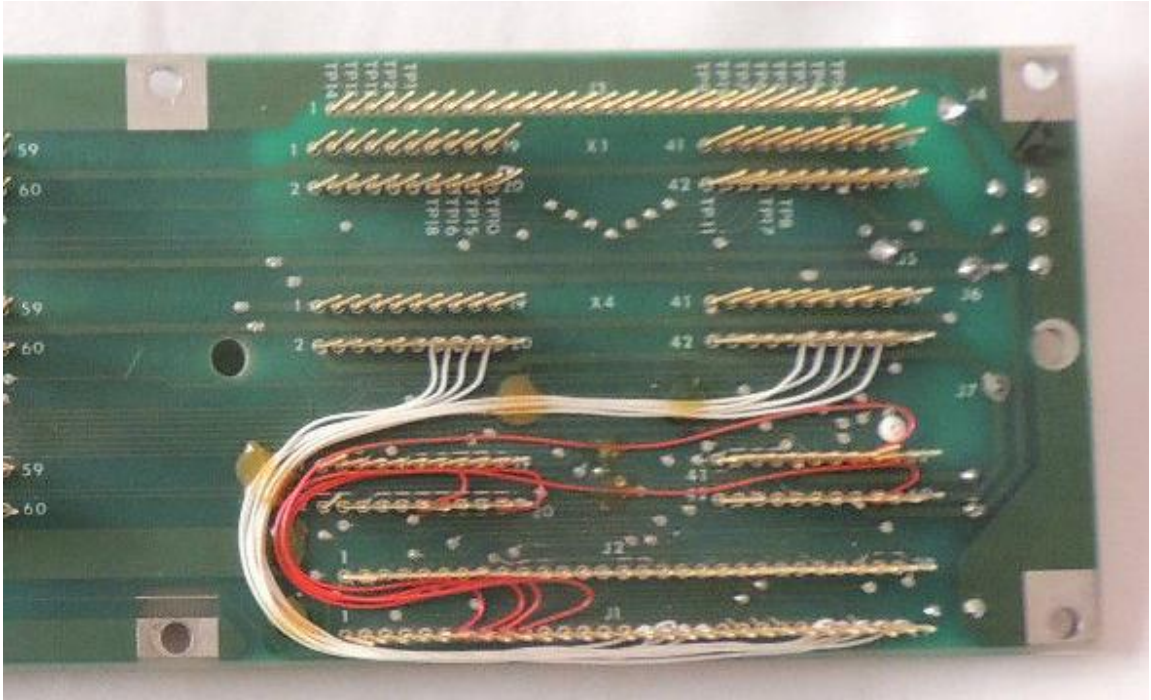
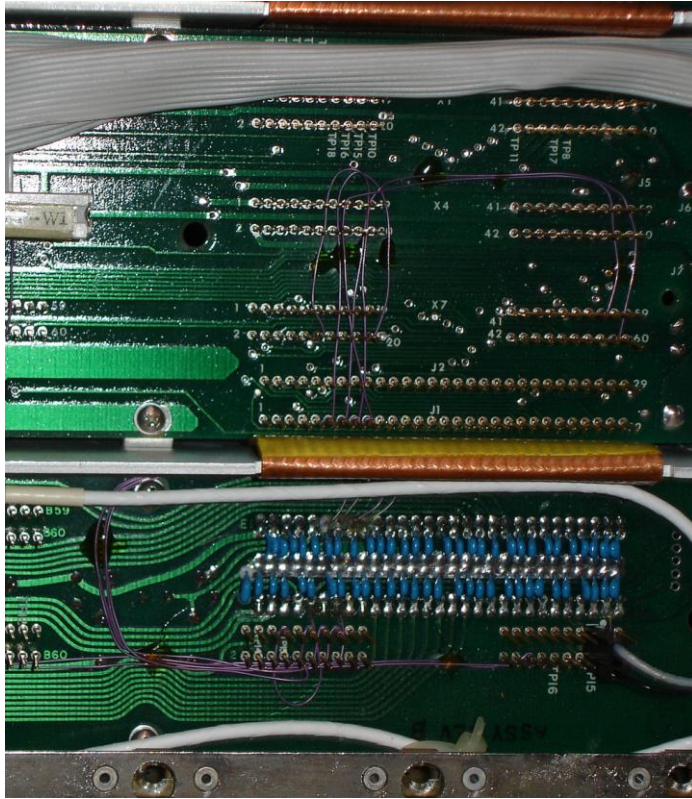

Figure 1: Bottom side of an A6 I/O mainboard set up for the 10-Hz BFO Option (red wires).
Figure 3: Details of the chassis bottom of a WJ-8718A with the 10-Hz BFO Option installed.
- Figures 1 and 2 (on this Manual) show the bottom side (partial) of an A6 I/O and of an A5 Synthesizer mainboard; both of them had been already Factory set up for installation of the 10-Hz Option (red wires) and of another option (white wires). In Figure 3 is shown a detail of the bottom side of these mainboards as they appear in a WJ-8718A/MFP with the 10-Hz BFO Option Factory installed.